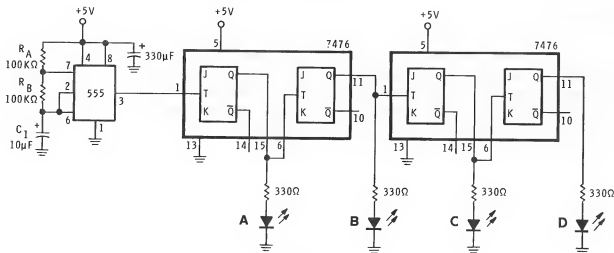
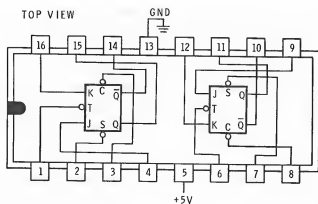

Figure 5-57
Figure 5-58
1. Wire the circuit shown in Figure 5-57. This circuit uses a 555 astable as a clock and two 7476 IC's. The 7476 IC's each contain two master-slave JK flip-flops. The pin connections for the 7476 are shown in Figure 5-58. The "S" and "C" are direct "set" and "clear" inputs to the slave flip-flop. The four JK flip-flops are wired as a 4-bit binary up counter.